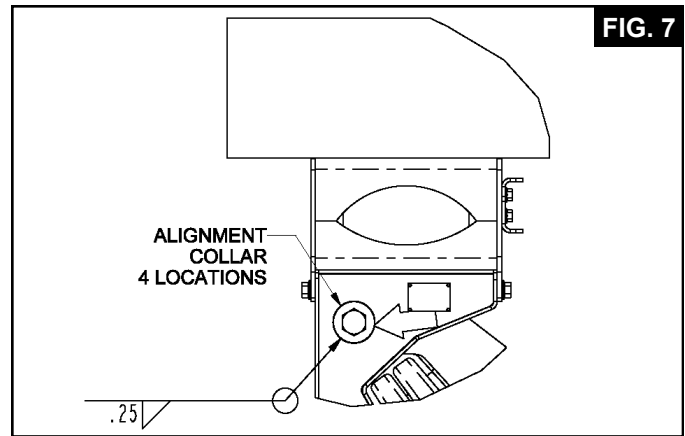

FIG. 7
10.1 Once the suspension is securely fastened and the mount fasteners tightened to the proper torque, the axle must be aligned. To accomplish this, there are 4 alignment slots and 4 alignment collars in the hanger brackets, which allow fore and aft movement of the axle (See Fig. 7).
10.9 Double check alignment. If acceptable, finish weld with a 1/4" weld completely around the 4 alignment collars. Perform welds in 3-4 steps to avoid excess heat (See Fig. 7).